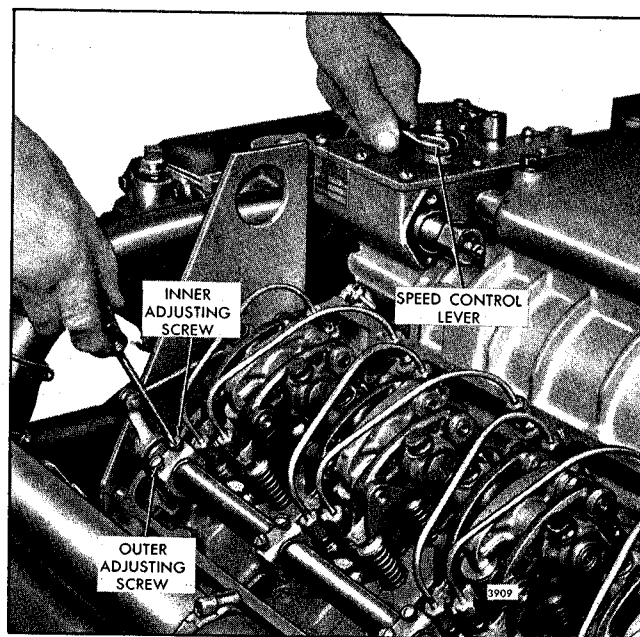

Fig. 19 - Positioning No. 1L Injector Rack Control Lever
6. Move the speed control lever to the maximum speed position; hold it in that position with light finger pressure. Turn the inner adjusting screw of the No. 1L injector rack control lever down (Fig. 19) until a slight movement of the control tube lever is observed or a step-up in effort to turn the screw driver is noted. This will place the No. 1L injector in the full-fuel position. Turn the outer adjusting screw down until it bottoms lightly on the injector control tube. Then, alternately tighten both the inner and outer adjusting screws.